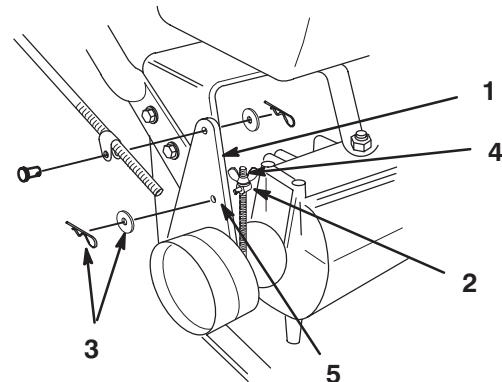

Figure 10
- If brake adjustment is required, remove hairpin cotter and washer securing brake rod fitting to idler bracket (Fig. 10).
- Adjust wing nut up or down on brake rod and secure fitting to idler bracket (Fig. 10). Check adjustment and adjust if necessary.